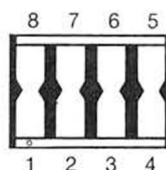

Figure 3-14
2. Take an 8-pin shunt and install it, with all four links connected (as shown in Figure 3-14), in the Clock Header socket.